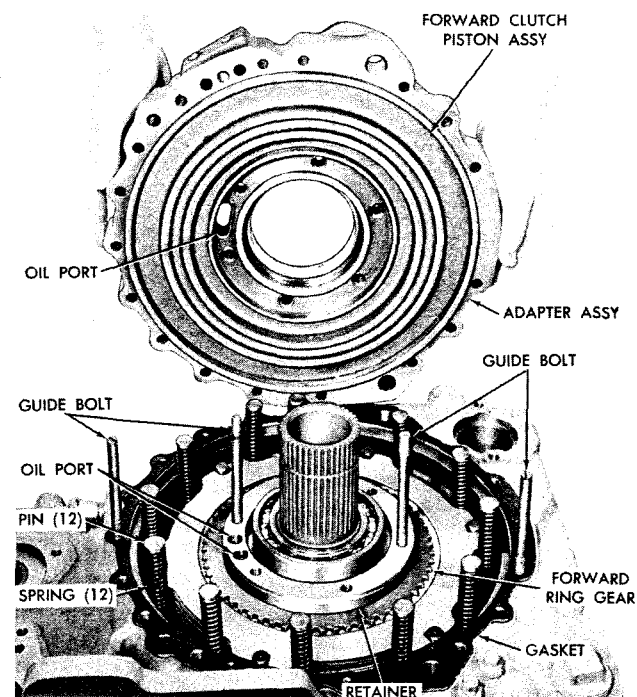

Fig. 7-30. Installing rear housing adapter assembly (-3 underdrive model)
(7) Install another internal-splined, and another external-tanged clutch plate onto the forward ring gear, above the positioning ring (fig. 7-30).
(8) Install twelve clutch piston return springs and pins (fig. 7-30). Install the adapter gasket.
(9) Install headless guide bolts into the retainer and transmission housing as shown in figure 7-30.
(10) Install the forward clutch piston, with sealrings, flat side first, into the adapter assembly (fig. 7-30).
(11) Install the adapter assembly, aligning the oil ports in the retainer and adapter (fig. 7-30).